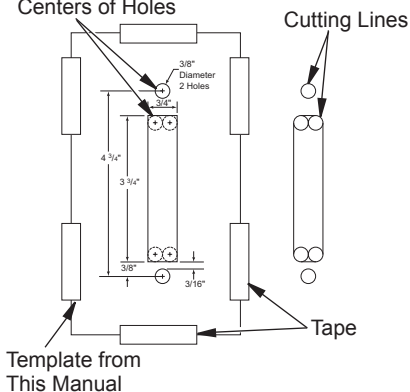

Figure 10 - Using Template for Wall Switch Assembly Installation
10. Using a straight edge and pencil, connect the outer edges of the 4 holes for the rectangle (see Figure 10, page 12). This will give you cutting lines for the rectangle you will cut in the wall.
10. Using a straight edge and pencil, connect the outer edges of the 4 holes for the rectangle (see Figure 10). This will give you cutting lines for the rectangle you will cut in the mantel wall.